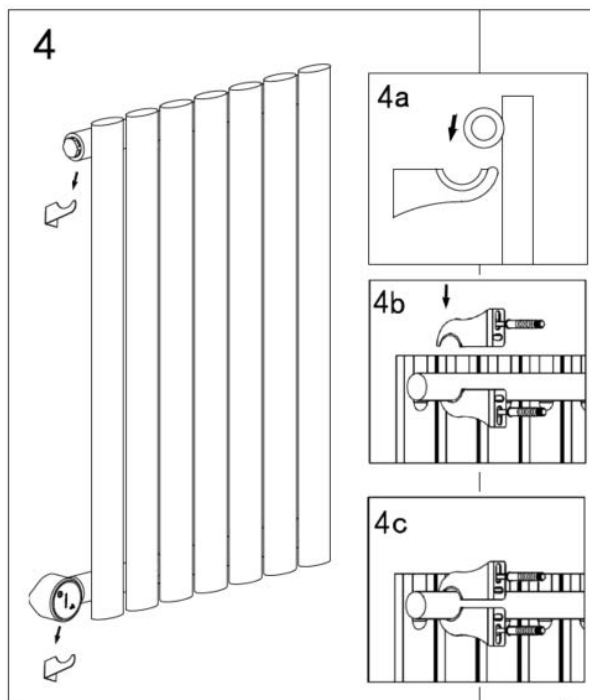

Figure 6 | Securing the radiator to the wall
- d. Using a 10mm drill bit, drill four holes in the marked locations and push the Wall Plugs (D) inside.
- e. Position the Brackets (A, B) over the holes and fix in place using the Washers (E) and Wall Screws (F).
5. The radiator is now ready to mount. You may choose to add the optional security Bracket at this stage, see **Figure 6**.
- b. **OPTIONAL** – Position the remaining Bracket (A) pointing downwards above one of the top Brackets, such that the radiator top bar is now locked in place. Mark the Bracket location on the wall before lifting the radiator off the Brackets.
- c. Use the 10mm drill bit to drill the marked Bracket hole and push the remaining Wall Plug (D) inside. Replace the radiator, re-position the Bracket and use the remaining Washer (E) and Wall Screw (F) to fix.